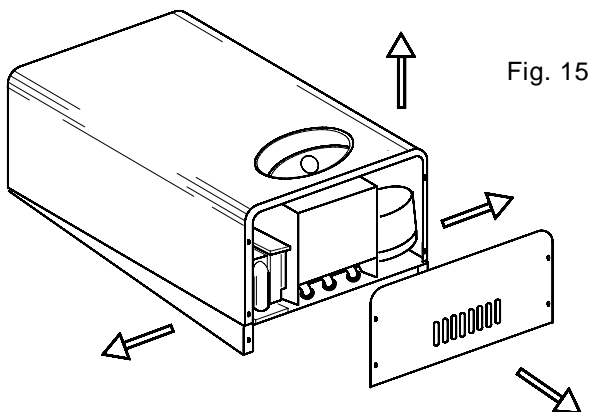

Fig. 15
- 5.4.3 Carefully slide the casing forward to lift off (fig. 15).